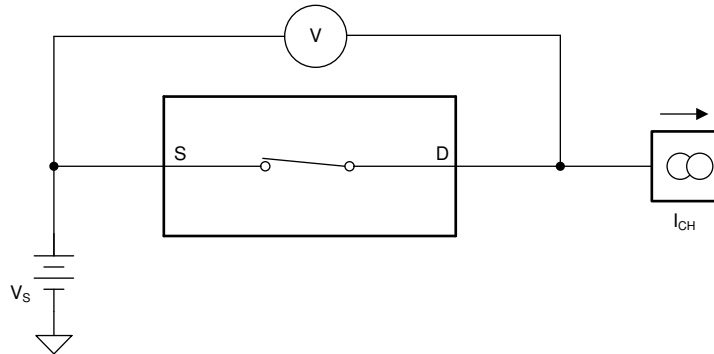

图 26. On-Resistance Measurement Setup
(1) X denotes *don't care*.
The on-resistance of the MUX36xxx is the ohmic resistance across the source (Sx, SxA, or SxB) and drain (D, DA, or DB) pins of the device. The on-resistance varies with input voltage and supply voltage. The symbol R_{ON} is used to denote on-resistance. The measurement setup used to measure R_{ON} is shown in 图 26. Voltage (V) and current (I_{CH}) are measured using this setup, and R_{ON} is computed as shown in 公式 1: